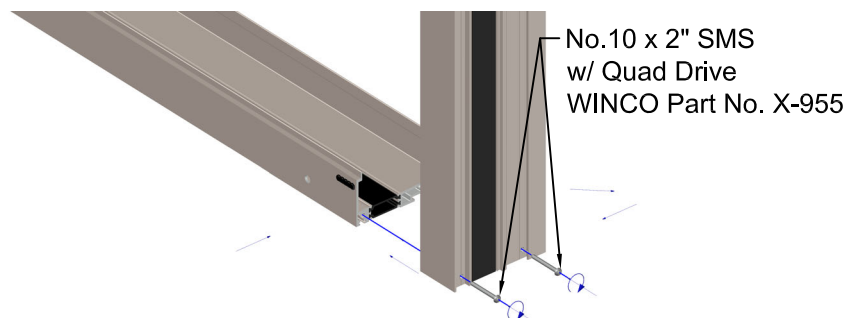

Fig. 11
10) Bring the Sub-Sill and Jamb Receptor into position and insert the factory supplied screw (Bill of Lading item X-950) into the holes. With a No. B2 Quad screw driver, tighten the screws to a snug fit. Tool any exposed sealant to ensure a watertight fit. See Fig. 11